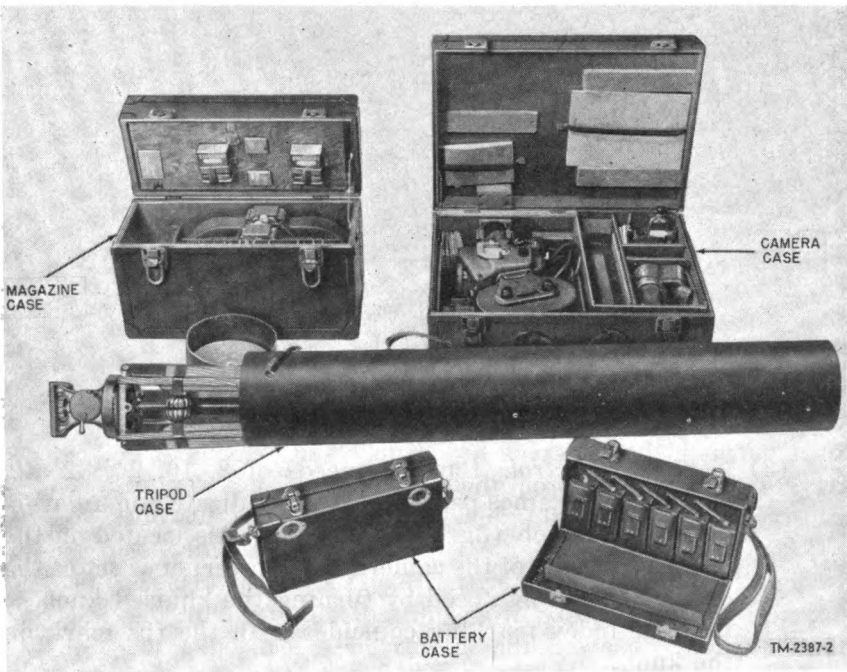

Figure 2. Camera PH-330-K, in carrying case.
5. Component Parts (fig. 2)
f. CARRYING CASES (figs. 2 and 6).
- (1) *Camera case.* The camera carrying case is an olive-drab laminated fiber, plywood, watertight case. The case is provided with compartments for the camera (to which are attached a 200-foot magazine, an adapter plate, a carrying strap, a 35- or 50-mm lens, and an electric drive motor), spring drive unit, cables, hand crank, filter kit and filter, three lenses, oilcan and 2-ounce bottle of oil, lens tissue and cleaner, 100-foot daylight reel, two spring cranks, brushes (paint and aperture), gage, spare springs, and electric motor brushes. Space for a 400-foot magazine is provided under the accessory compartment. This technical manual and the American Cinematographer Book are placed in the top of the case; the case may be locked.
- (2) *Magazine case.* The magazine case is divided into compartments for two 400-foot and one 200-foot film magazines, two boxes of chalk, a slate, and two spare cables.